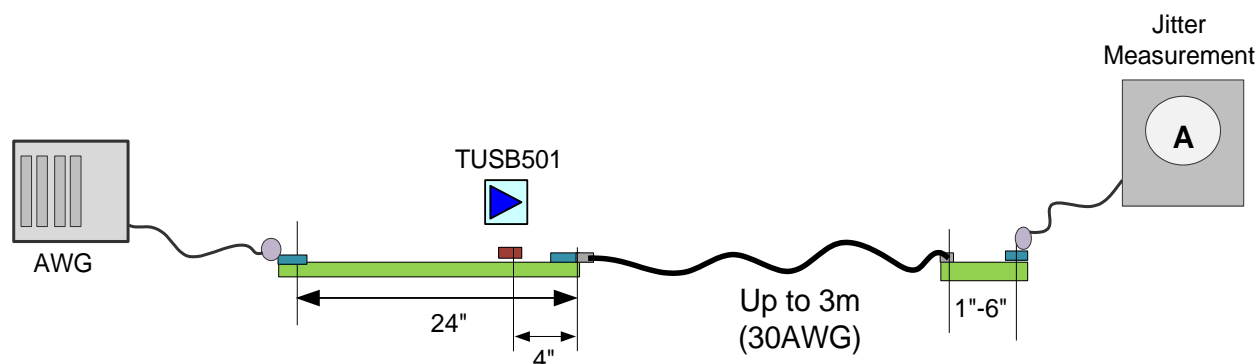

Figure 1. Jitter Measurement Setup
(1) Includes  $R_J$  at  $10^{-12}$ .
(2) Measured at the ends of reference channel in Figure 1 with K28.5 pattern,  $V_{\text{ID}} = 1000 \text{ mV}_{\text{pp}}$ , 5 Gbps, -3.5 dB de-emphasis from source.
(3) UI = 200 ps.